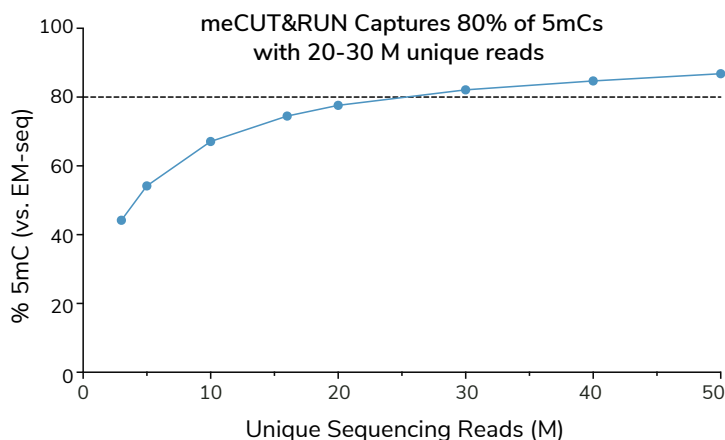

FIGURE 12
- Libraries should be sequenced to a depth of 30-50 million total reads, with a goal of generating 20-30 million uniquely aligned reads. This sequencing depth will provide ~80% 5-methylcytosine coverage (vs. whole-genome EM-seq; see Figure 12).